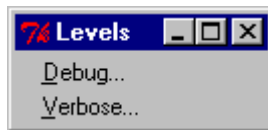
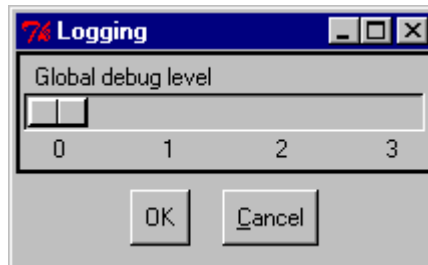

Figure 3-14. Levels Menu Items
Figure 3-15. The Level Dialog (Global Debug)
- Levels—Displays a cascading menu containing the Debug and Verbose items. Either item presents a dialog box for setting the global level for the selected item. Except for the label, the dialog box for both items appears as shown in Figure 3-15. Figure 3-14 shows the Levels menu: